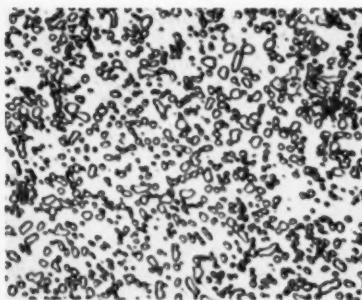

Fig. 3—Microstructure of annealed carbon tool steel. The spheroidization is essential to good control in heat treatment. X500 4% Picral Etch.
Tool steels should be in a fully annealed condition before hardening. The microstructure should be 100% spheroidized (Fig. 3), which provides maximum machinability and the best possible control of the solution of carbides when heating for hardening. Wear resistance, hardness and dimensional changes may be adversely affected and cracking hazards increased if the steel is not fully annealed.\*
Zyglo employs fluorescent penetrants to locate defects in metals and solid materials. Standard type equipment for this process is shown in Figure 3. Inspection with Zyglo consists of five steps: (1) Zyglo Penetrant is applied to the part which is allowed to drain while penetrant is drawn into cracks and other discontinuities; (2) Excess penetrant is removed from the surface of the part by water washing; (3) The part is completely dried in a hot-air, recirculating drier; (4) Zyglo Developing Powder is applied to the part; and (5) the part is examined under near-ultra-
Fig. 3—Is a small Zyglo Unit for fluorescent penetrant inspection. The unit was developed for production inspection of small parts, of tools, for overhaul inspection of small and medium sized parts and in sampling and quality control inspection.